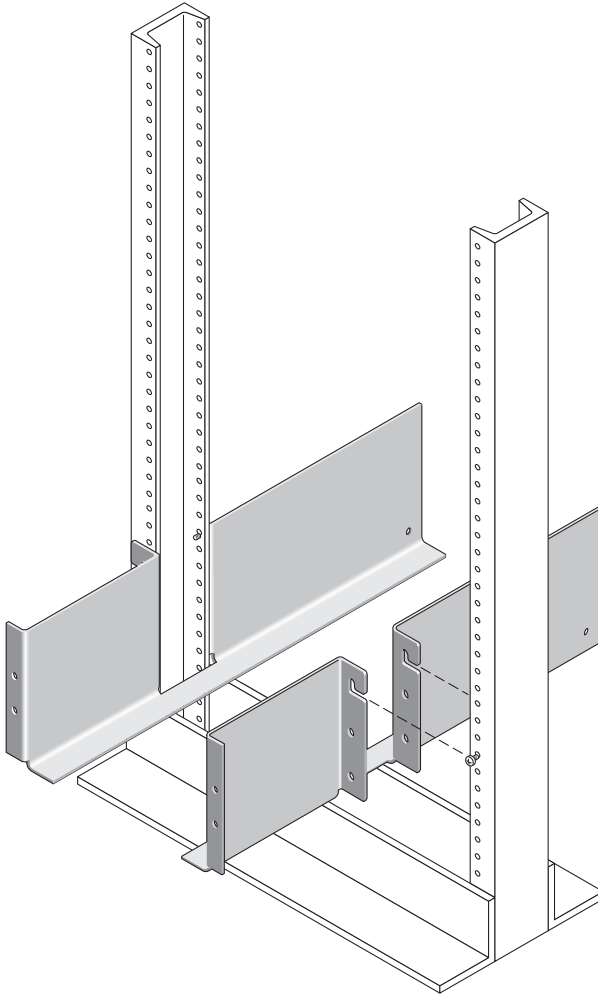

FIGURE 2-20 Seating the Mounting Rails Over the Front and Back Screws
2. Align the open slot of the left mounting rail over the front and back screws of the left post, and press the rail down until it is seated over the screws (FIGURE 2-20). Repeat for the right rail.